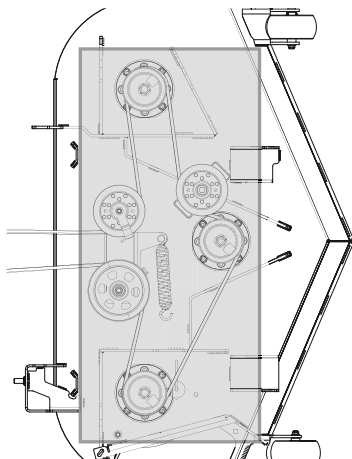

Figure 34
- Clean the top of the mower deck, under the spindle covers and belt area. See Figure 34.